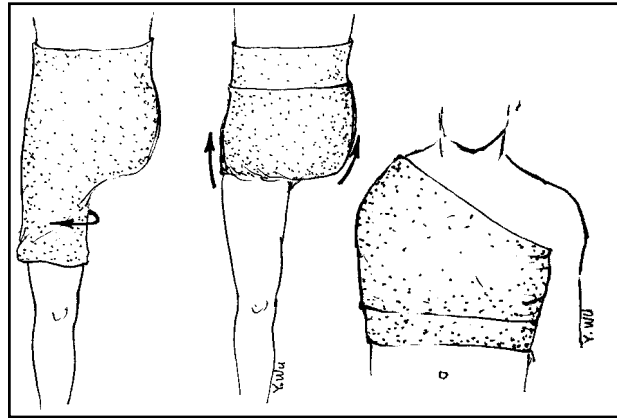

Figure 4: Elastic stockinette for hip disarticulation or shoulder disarticulation.
- **Hip Disarticulation** - The surgical wound following hip disarticulation or hemipelvectomy is wrapped with elastic stockinette, 10" or 12" wide, around the stump and the waist. The distal end is then twisted and folded upward to the waist, leaving two layers over the surgical area. Another layer can be added for more compression. (Figure 4). A gradient pressure over the operated area using this technique is far more effective than that of elastic bandaging. Our clinical experience is that support of the soft tissue promotes healing and lessens the intensity of stump pain.